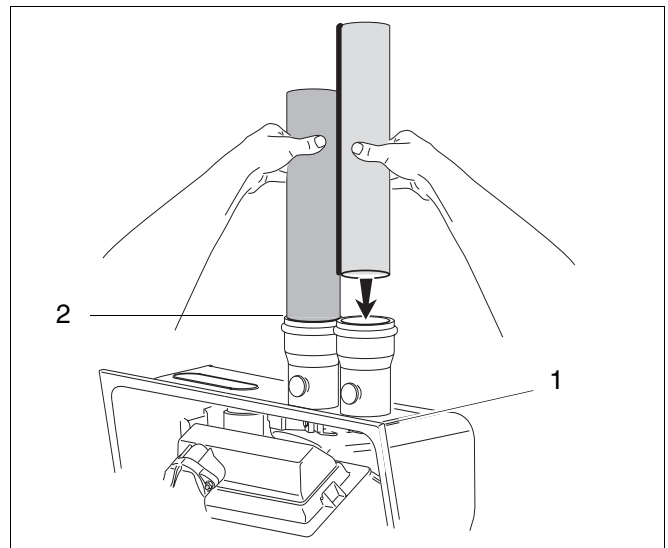

Fig. 15 Vent pipes
All vent pipes must be glued, except for the flue gas adapter (fig. 15, pos. 1) which is screwed into place and the first connection to the flue gas adapter (fig. 15, pos. 2). Installed you can slide the pipe onto the adapter, properly supported and the exhaust pipe must be pitched a minimum of a ¼ inch per foot back to the boiler. This allows the condensate to drain away.